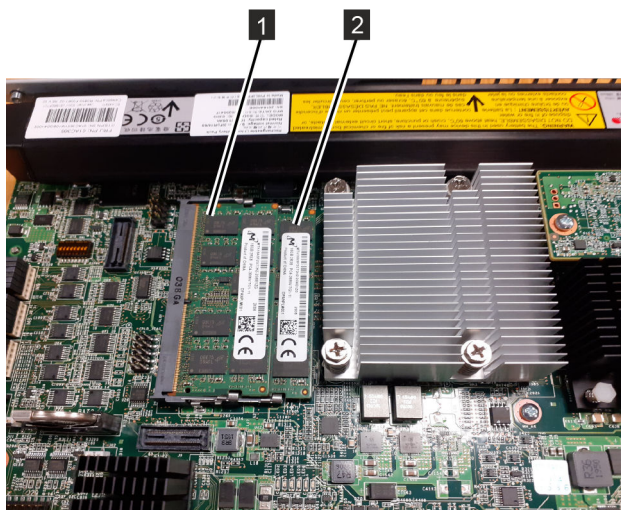

Figure 81. Installing a DIMM
6. Gently place the DIMM in the slot, ensuring the notches in the DIMM align with the shape of the slot (Figure 81 on page 128).